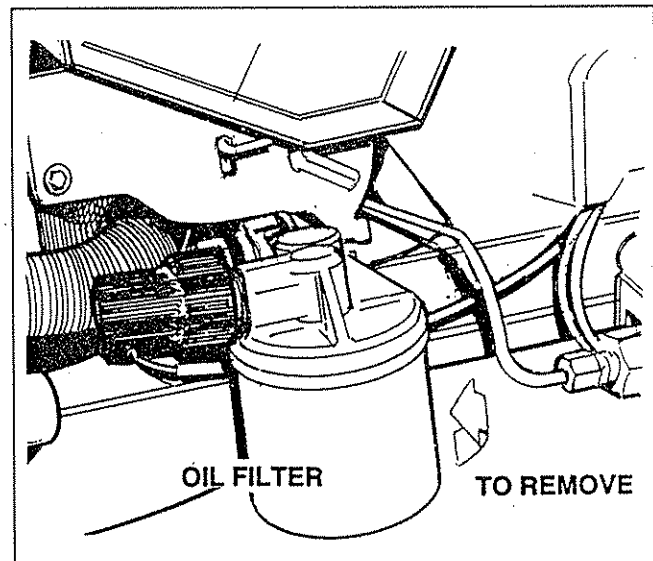

Figure 10 — Replacing Engine Oil Filter
- Turn oil filter counterclockwise to remove (Figure 10).